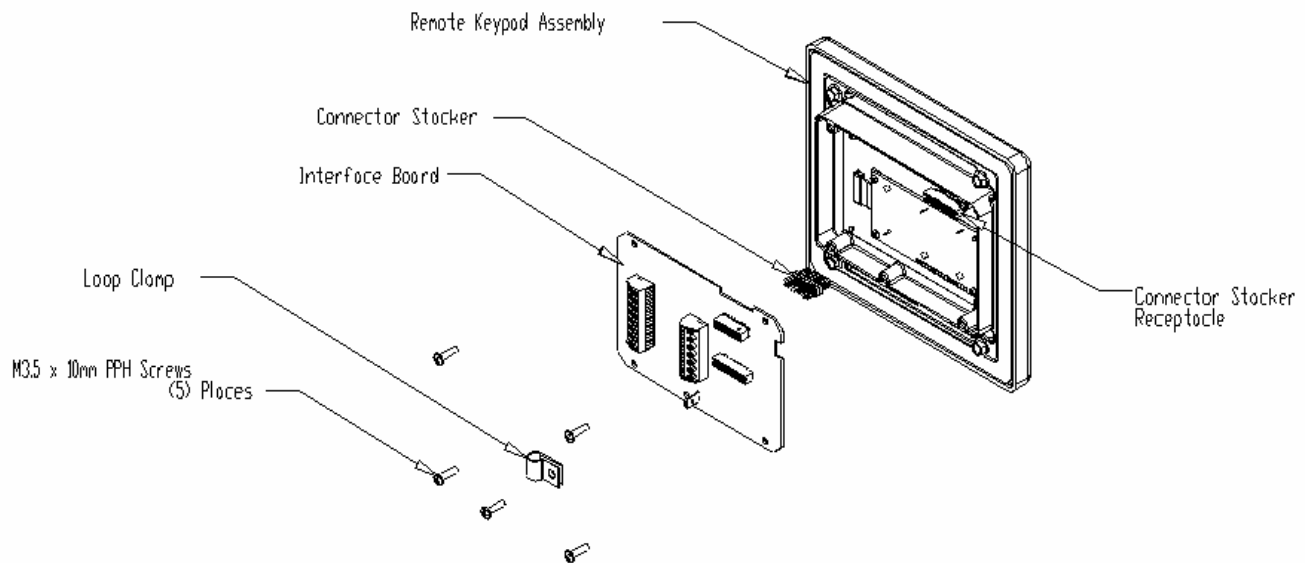

Figure 11: Assembling the Remote Keypad Interface (XRKMK Option)
1. Insert the connector stacker into the receptacle on the remote keypad assembly (removed in Step 9) as shown in Figure 11 below.
3. Fasten the keypad interface assembly with five (5) M3.5 x 10 screws along with the loop clamp provided. Limit installation torque to 12 in-lb. maximum.